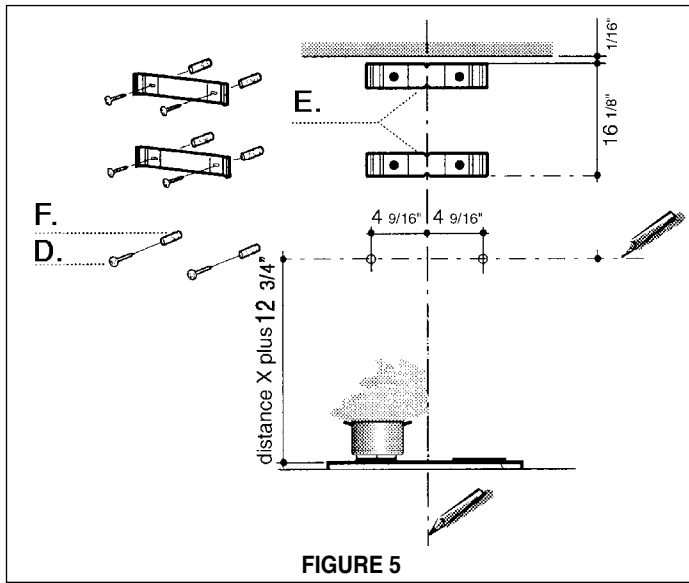

FIGURE 5
3. Based on your ceiling height and/or personal preference, determine the distance you would like between the bottom of the hood and the cooktop (**distance X in FIGURE 4A OR 4B**). Draw a horizontal line the height of **distance X plus 12 3/4"** (as indicated in **FIGURE 5**).